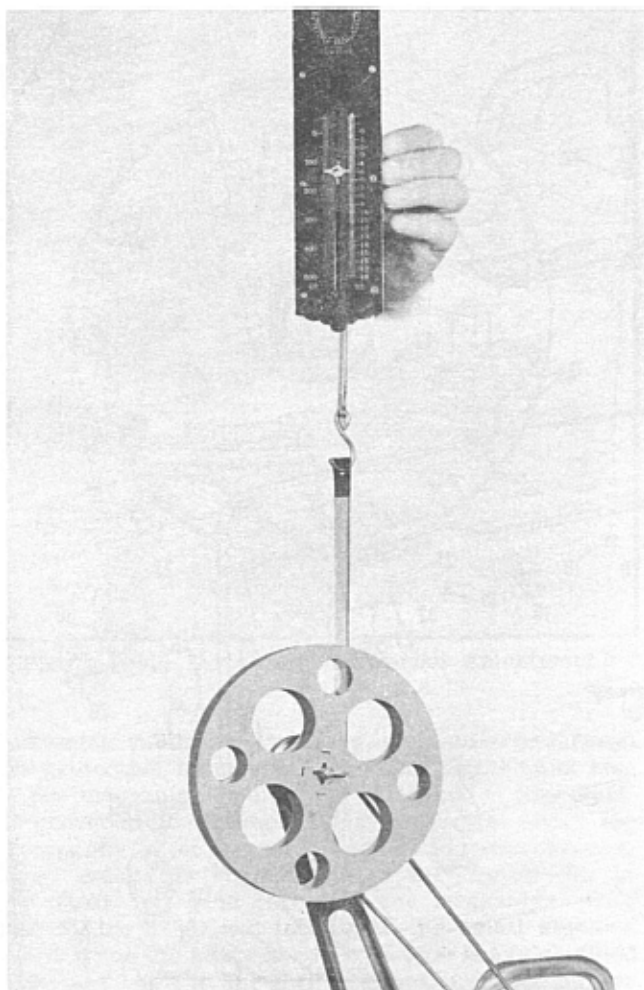

Figure 2-43. Spring Scale Adjustment for Film Take-up Tension
b. Wrap three feet of 16-mm film around the hub of an empty 400-foot film reel and install reel on take-up arm spindle. Tighten elastic stop nut on end of take-up spindle against the tension nut and attach hook-end of 18-ounce spring scale to end of film as shown in figure 2-43.
e. Wrap the three-foot length of film around hub of empty 400-foot film reel on take-up spindle and attach hook-end of scale to end of film (figure 2-43). Tighten or loosen elastic stop nut and tension nut on spindle until reading on scale is 8 ounces maximum. The tension now is set to accommodate all size film reels from 400-foot to 2000-foot capacity.